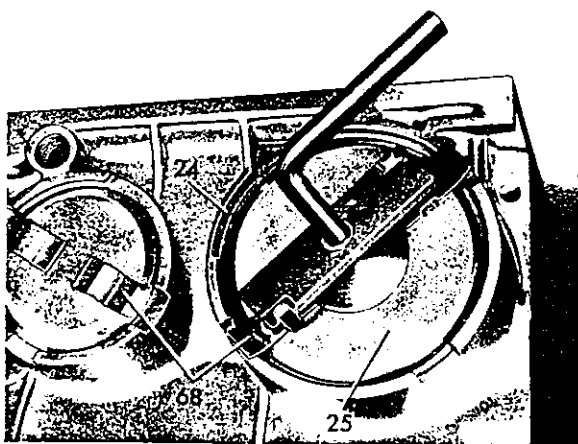

Fig. 50
33 Mount brake band piston cover B 2 (25) with a new O-ring and lock with snap ring (24) **Fig. 50**